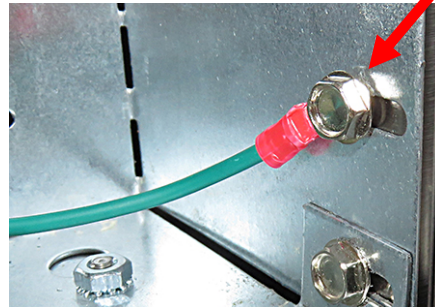

Figure 20
29. Remove a screw from the inside of the control box. Insert the screw into the ground wire eye connector and reattach the screw to the side of the control box (see Figure 20).